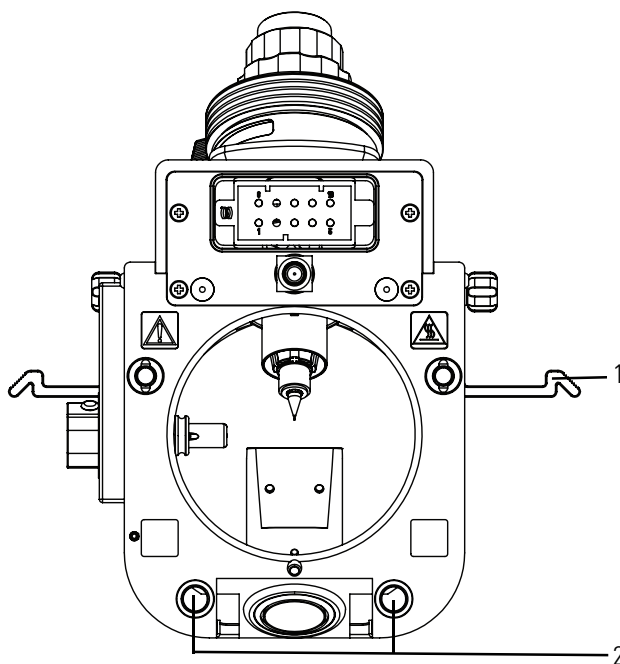

Figure 8-9. OptaMax NG ion source with unlocked levers (back view)
1. Carefully align the two guide pin holes on the rear of the ion source housing (see Figure 8-9) with the ion source housing guide pins on